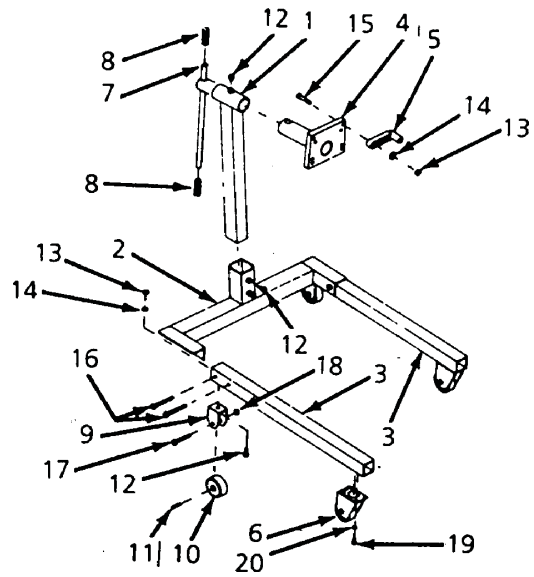

Figure 4 - Assembly Illustration for model ATD-7482
**Model: ATD-7482 (see Figure 4, tool tray not shown)**